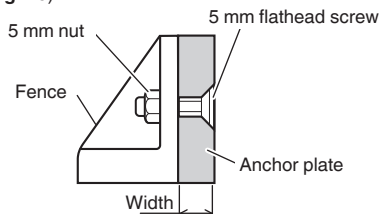

Fig. 26
- (2) Use the 6 mm holes on the fence surface (two on each side of the left and right fences) to attach the anchor plate with the 5 mm flathead screws and 5 mm nuts. (Fig. 26)